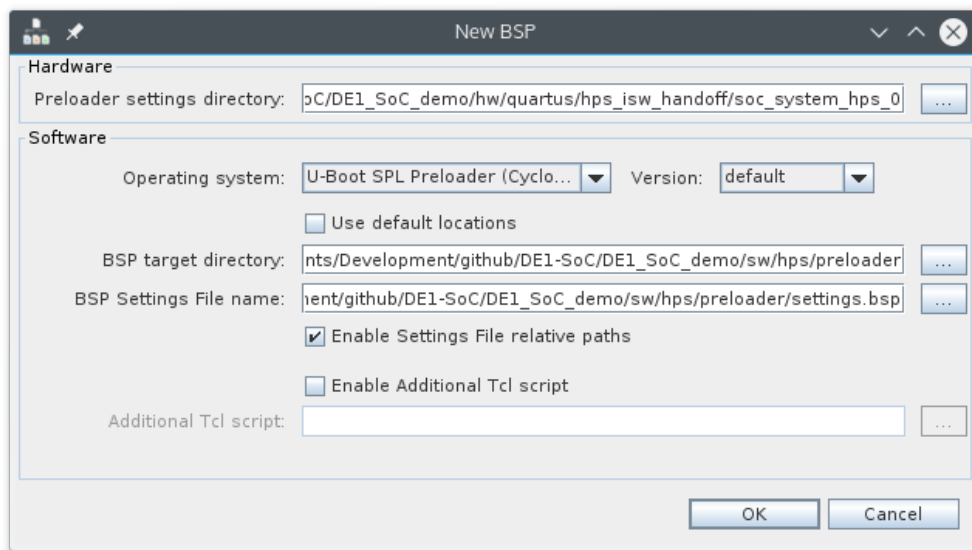

Figure 8-28. New BSP Dialog
- b. Disable the “Use default locations” checkbox and under the “BSP target directory”, select the “DE1_SoC_demo/sw/hps/preloader” directory. You should have something similar to Figure 8-28.